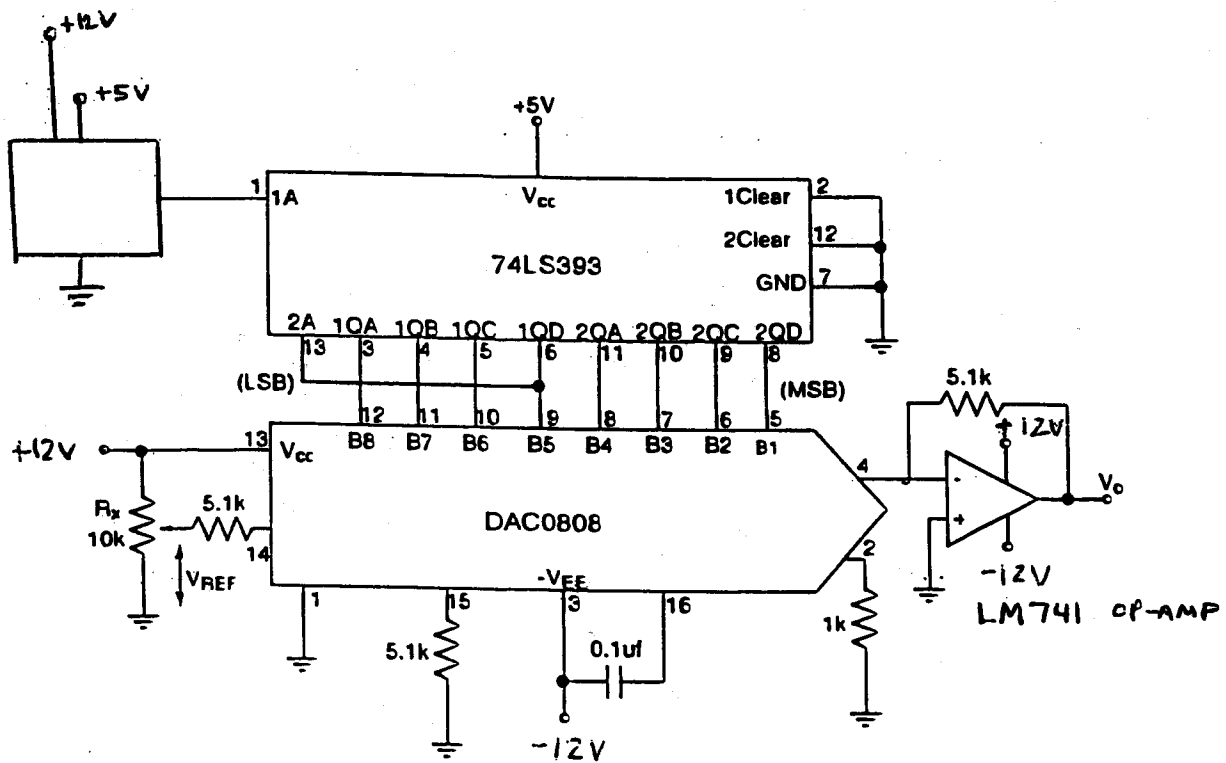

Figure 1: DAC experimental circuit
2. Connect the circuit as shown in Fig. 1. Adjust the potentiometer R_x to produce a $V_{REF} = 5.000 V$. Measure as accurately as possible using a DVM.